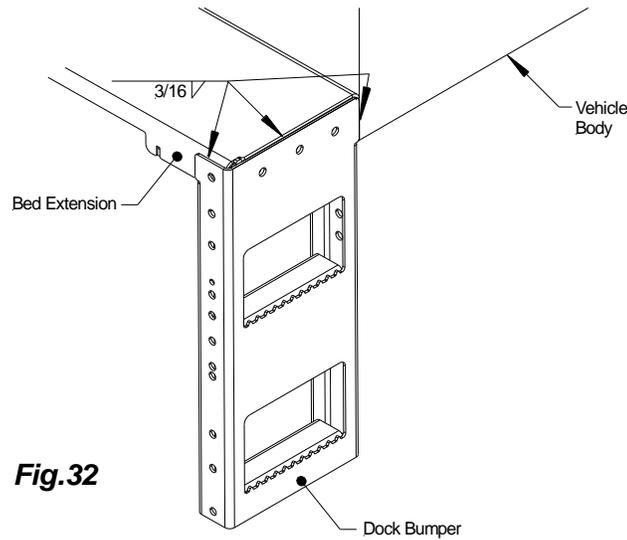

Fig.32
- 1. Dock Bumpers:** Clamp dock bumpers to the bed extension as shown, **Fig.32**. Check for squareness. Tack weld the dock bumper. Repeat process for driver side